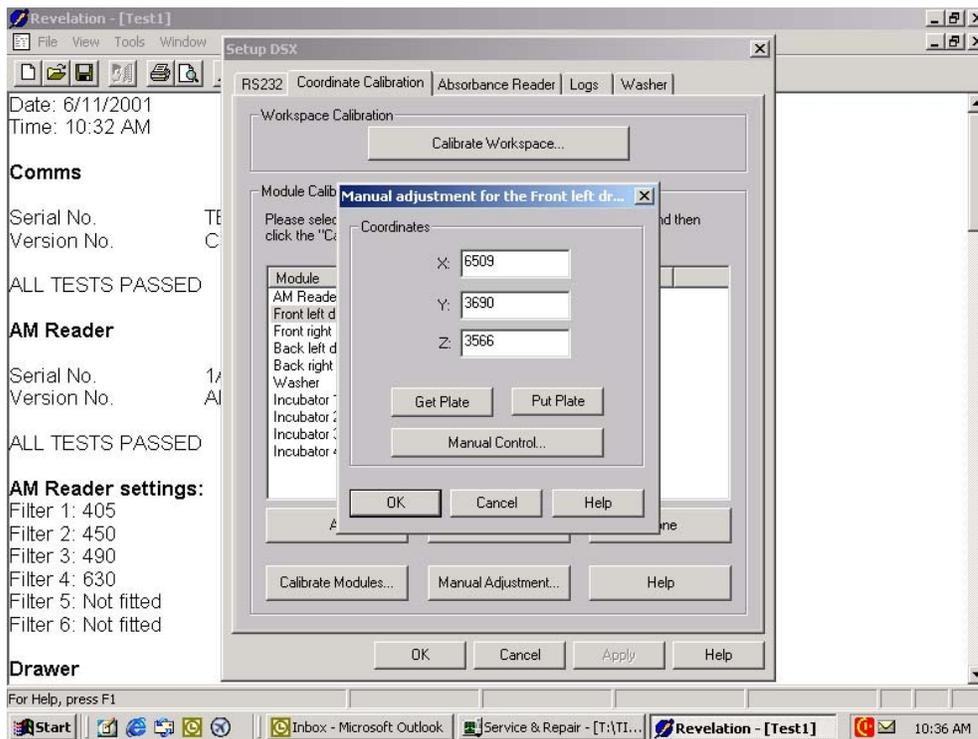

Figure 3-5 Front Left Drawer Manual Adjustment Dialog Box.
**Note:** The values in the Manual Adjustment Dialog Box for the three axes represent approximately 0.01mm in travel. For example, the value reported in Figure 3-5 for Z is equivalent to the step count (3566) multiplied by .0625 would provide the distance in millimeters from the Z home position. The Y & Z step count multiplication factor is .0625 and the X is .0600. The home position for the X is the farthest left position or 0, the Y is farthest inward position or zero and the Z is the up most position or zero.